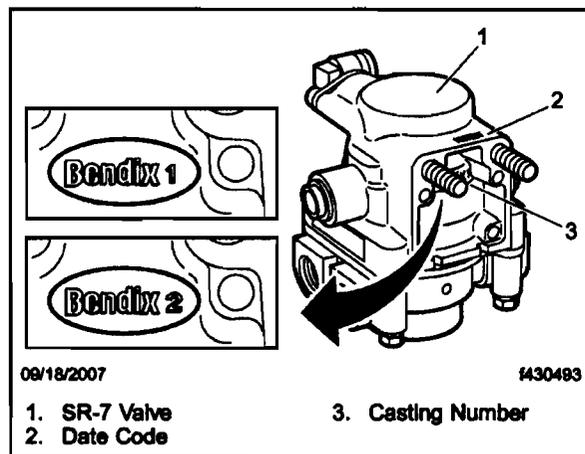

Fig. 4, Date Code and Casting Number Identification
- Locate the manufacturing date code on the top of the SR-7 valve. See Fig. 4 to determine its location.
2. Inspect the casting stamp between the mounting studs on the back of the valve. Either "Bendix 1" or "Bendix 2" is stamped on the valve. See Fig. 4.